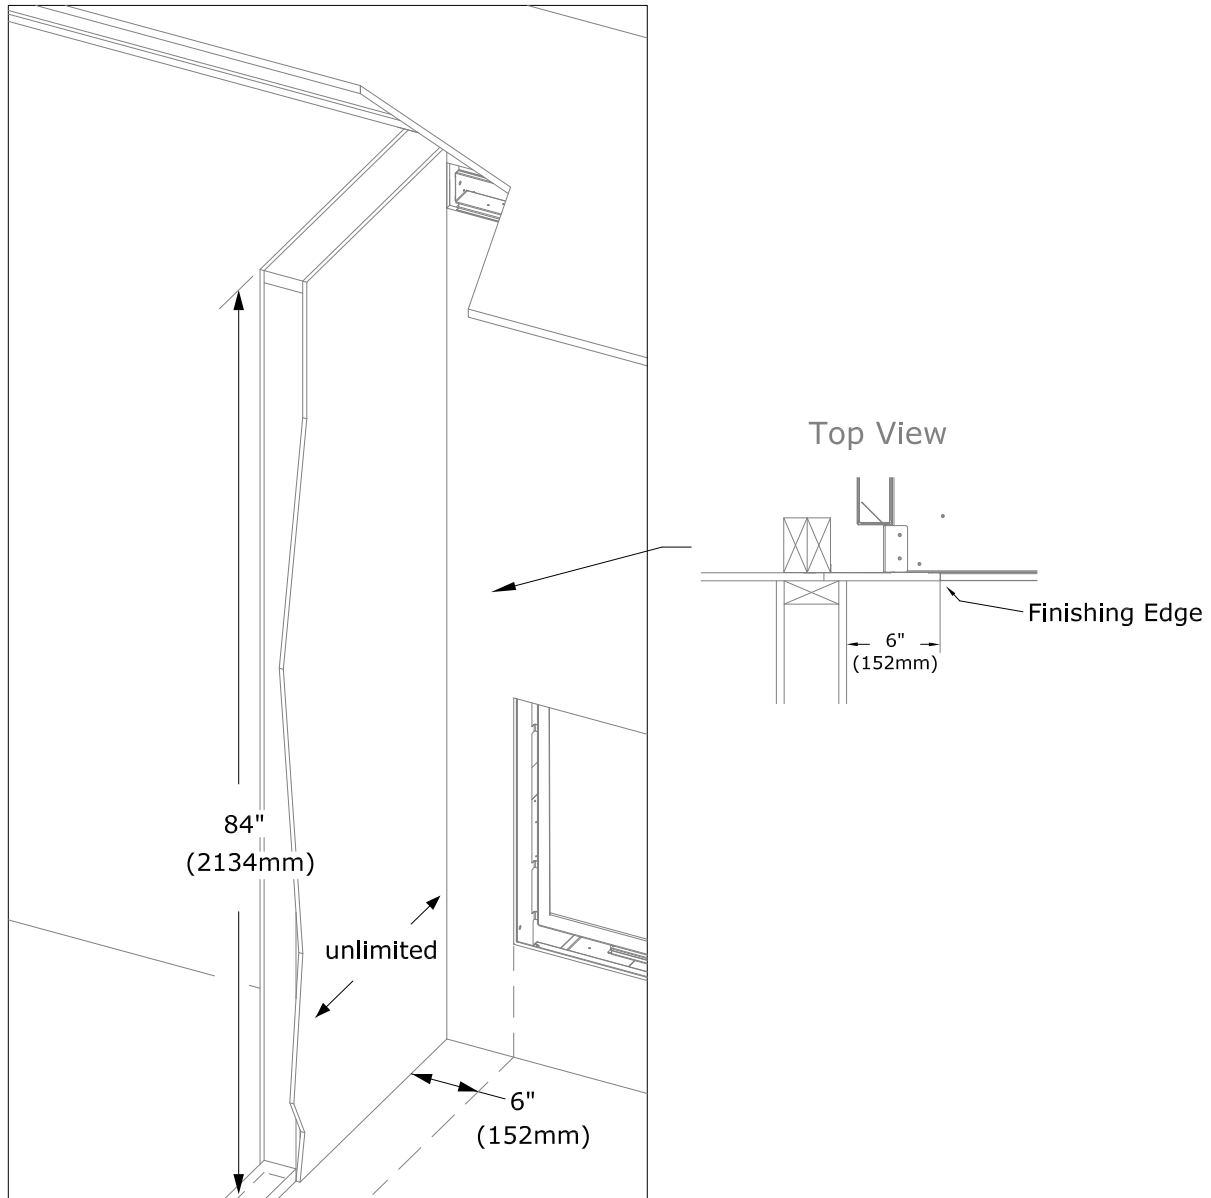

Figure 3.10 - Nordik 48TL Combustible Sidewall Requirements
- Mantel Leg: Follow "Combustible Sidewall Clearance" below. See Figure 3.10.
- Combustible Sidewall Clearance: The adjacent sidewall projection is unlimited and starts at 6" (152mm) from the side of the fireplace. See Figure 3.10.
- Figure 3.10 shows the unlimited sidewall projection where it is the minimum of 6" (152mm) away from the side fireplace finishing edge. This places the sidewall flush with the KZK plenum opening. If you are using the KZK discharge trim provide an extra 1/2" clearance so your sidewall would be located 6-1/2 (165mm) away from the side fireplace finishing edge.